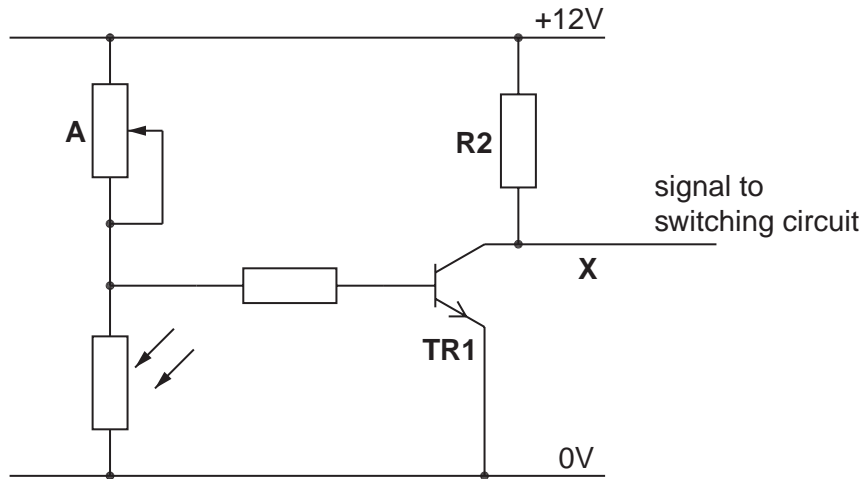

Fig. 5
- (b) Fig. 5 shows the sensing part of a circuit for switching car headlights on automatically when it is dark.